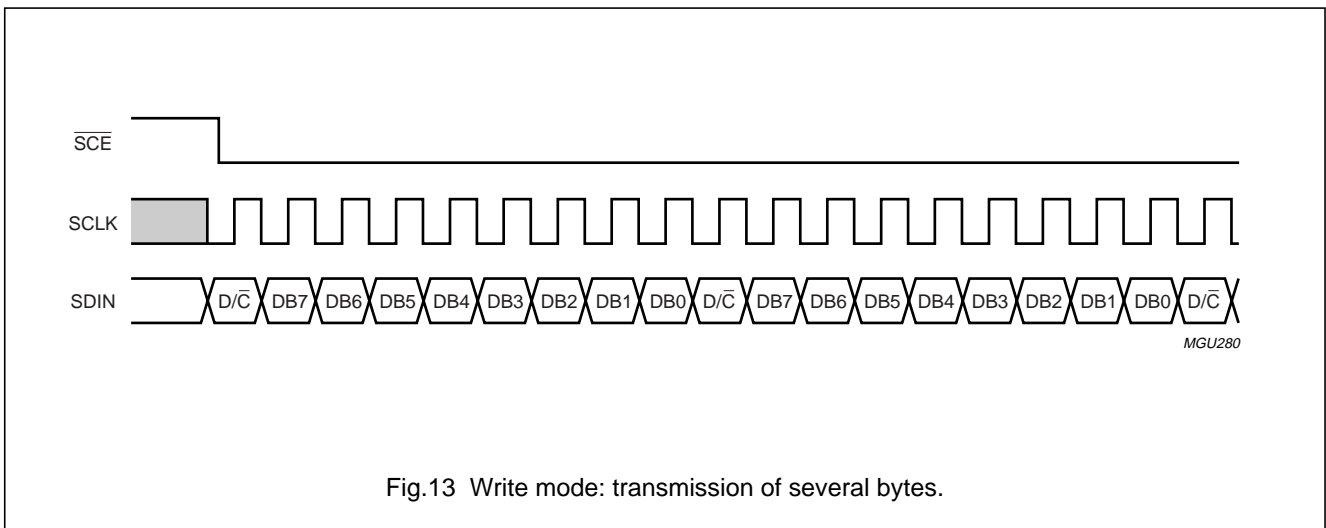

Fig.13 Write mode: transmission of several bytes.
- If \overline{SCE} stays LOW after the last bit of a command or data byte, the serial interface expects the D/\overline{C} bit of the next byte at the next rising edge of SCLK (see Fig.13)